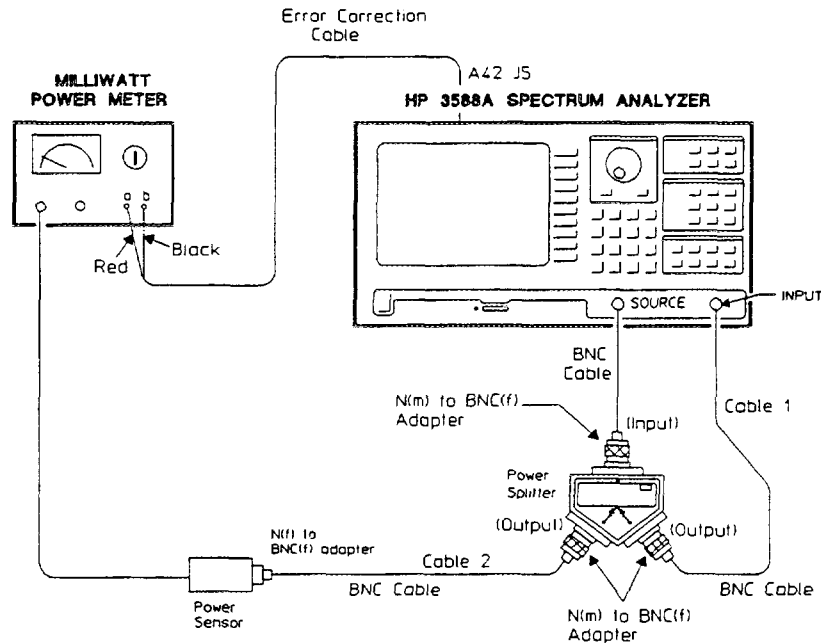

Figure 3-10. Connecting Error Correction Cable
17. Connect the error correction cable from the milliwatt power meter (red to A and black to B) to A42 J5 (EXT LVL). See figure 3-10.